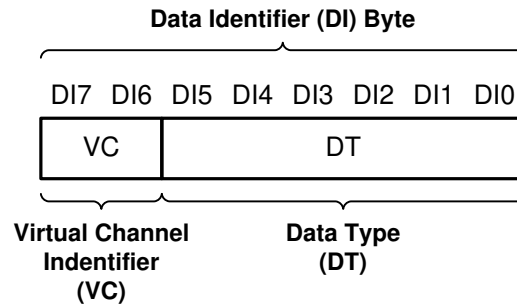

图 7-11. CSI-2 Data Identifier Structure
The DS90UB936-Q1 MIPI CSI-2 protocol interface transmits the data identifier byte containing the values for the virtual channel ID (VC) and data type (DT) for the application specific payload data, as shown in 图 7-11. The virtual channel ID is contained in the 2 MSBs of the data identifier byte and identify the data as directed to one of four virtual channels. The value of the data type is contained in the six LSBs of the data identifier byte. When partnered with a DS90UB935-Q1 serializer, the Data Type is passed through from the received CSI-2 packets. When partnered with DS90UB933-Q1 or DS90UB913A-Q1 the received RAW mode data is converted to CSI-2 Tx packets with assigned data type and virtual channel ID and matches what is sent by the video source.